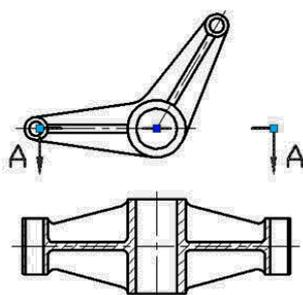

Fig 4.1
**4. Test Dynamic Block:** Open the graphic which needs to be dimensioned and insert the completed dynamic block (Fig 4.1). Drag the grip of the dynamic block, the section symbol can be stretched outward and rotated around the center, and you finish the section symbol mark (Fig 4.2).